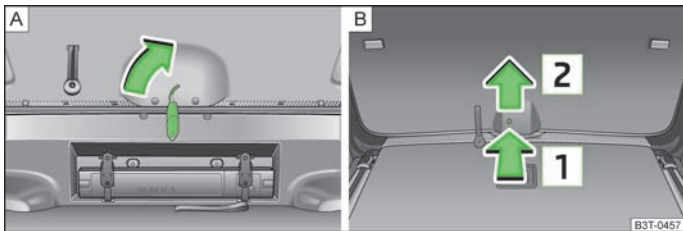

Fig. 21 Emergency unlocking of the boot lid
- Insert the vehicle key into the slot in the trim panel as far as the stop » Fig. 21 - .
- Insert a screwdriver or similar tool into the opening in the trim in the direction of the arrow  » Fig. 21 as far as the stop.
- Unlock the lid upwards in the direction of the arrow  » Fig. 21.